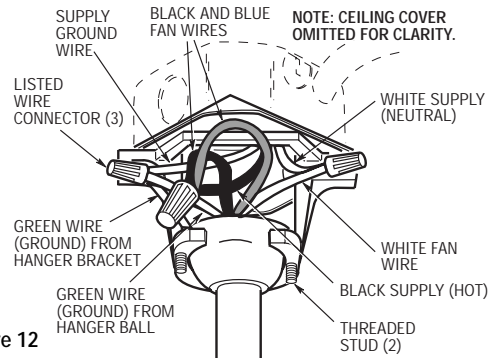

Figure 12
- 1. Connect the green grounding lead from the hanger ball and the green grounding lead from the hanger bracket to the grounding conductor of supply (this may be a bare wire or wire with green colored insulation). Securely connect wires with wire connectors supplied. (Figure 12.)
- 2. Securely connect the fan motor white wire to the supply white (neutral) wire using wire connector supplied (Figure 12). Securely connect the fan motor black wire and blue wire to the supply black (hot) wire using wire connector supplied (Figure 12). After connections have been made, separate the white and green leads from the black and blue leads. Carefully turn the leads upward and push the green and white leads into one side of the outlet box. Then push the black and blue leads into the other side of the outlet box.
- 3. Screw the two threaded studs (supplied) into the tapped holes in the hanger bracket (Figure 12).